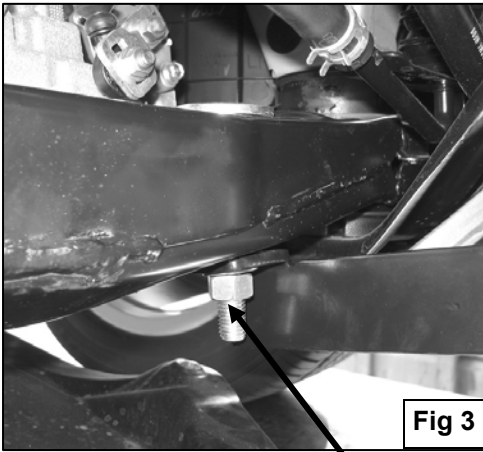

Fig 3
5. Once you have removed the factory bracket, insert from the top of the cross member (1) 12mm x 90mm Bolt Plate. Re-install the factory metal bracket over Bolt Plate using the factory hardware. From the bottom of the cross member bar, place Support Bracket over previously inserted bolt and secure it using the included (1) 12mm Nylock Nut and (1) 12mm x 29mm x 3mm Flat Washer (**Figure 3**). Do not tighten at this time. Attach opposite side of Support Bracket to Mounting Bracket using the included (1) 12mm x 30mm Hex Head Bolt, (1) 12mm Nylock Nut, and (2) 12mm Flat Washers (**Figure 4**). Do not tighten at this time.